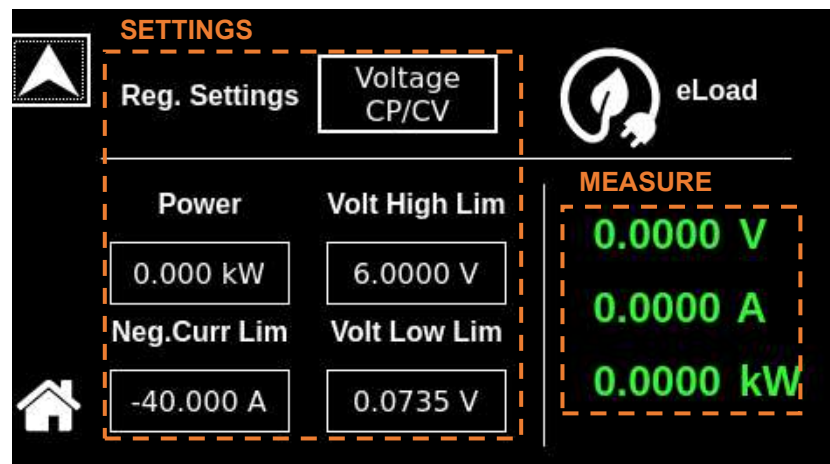

**Figure 10-10. Dashboard Screen in Voltage CP/CV Regulation setting**
a) **Voltage - CP/CV** is shown in Figure 10-10,